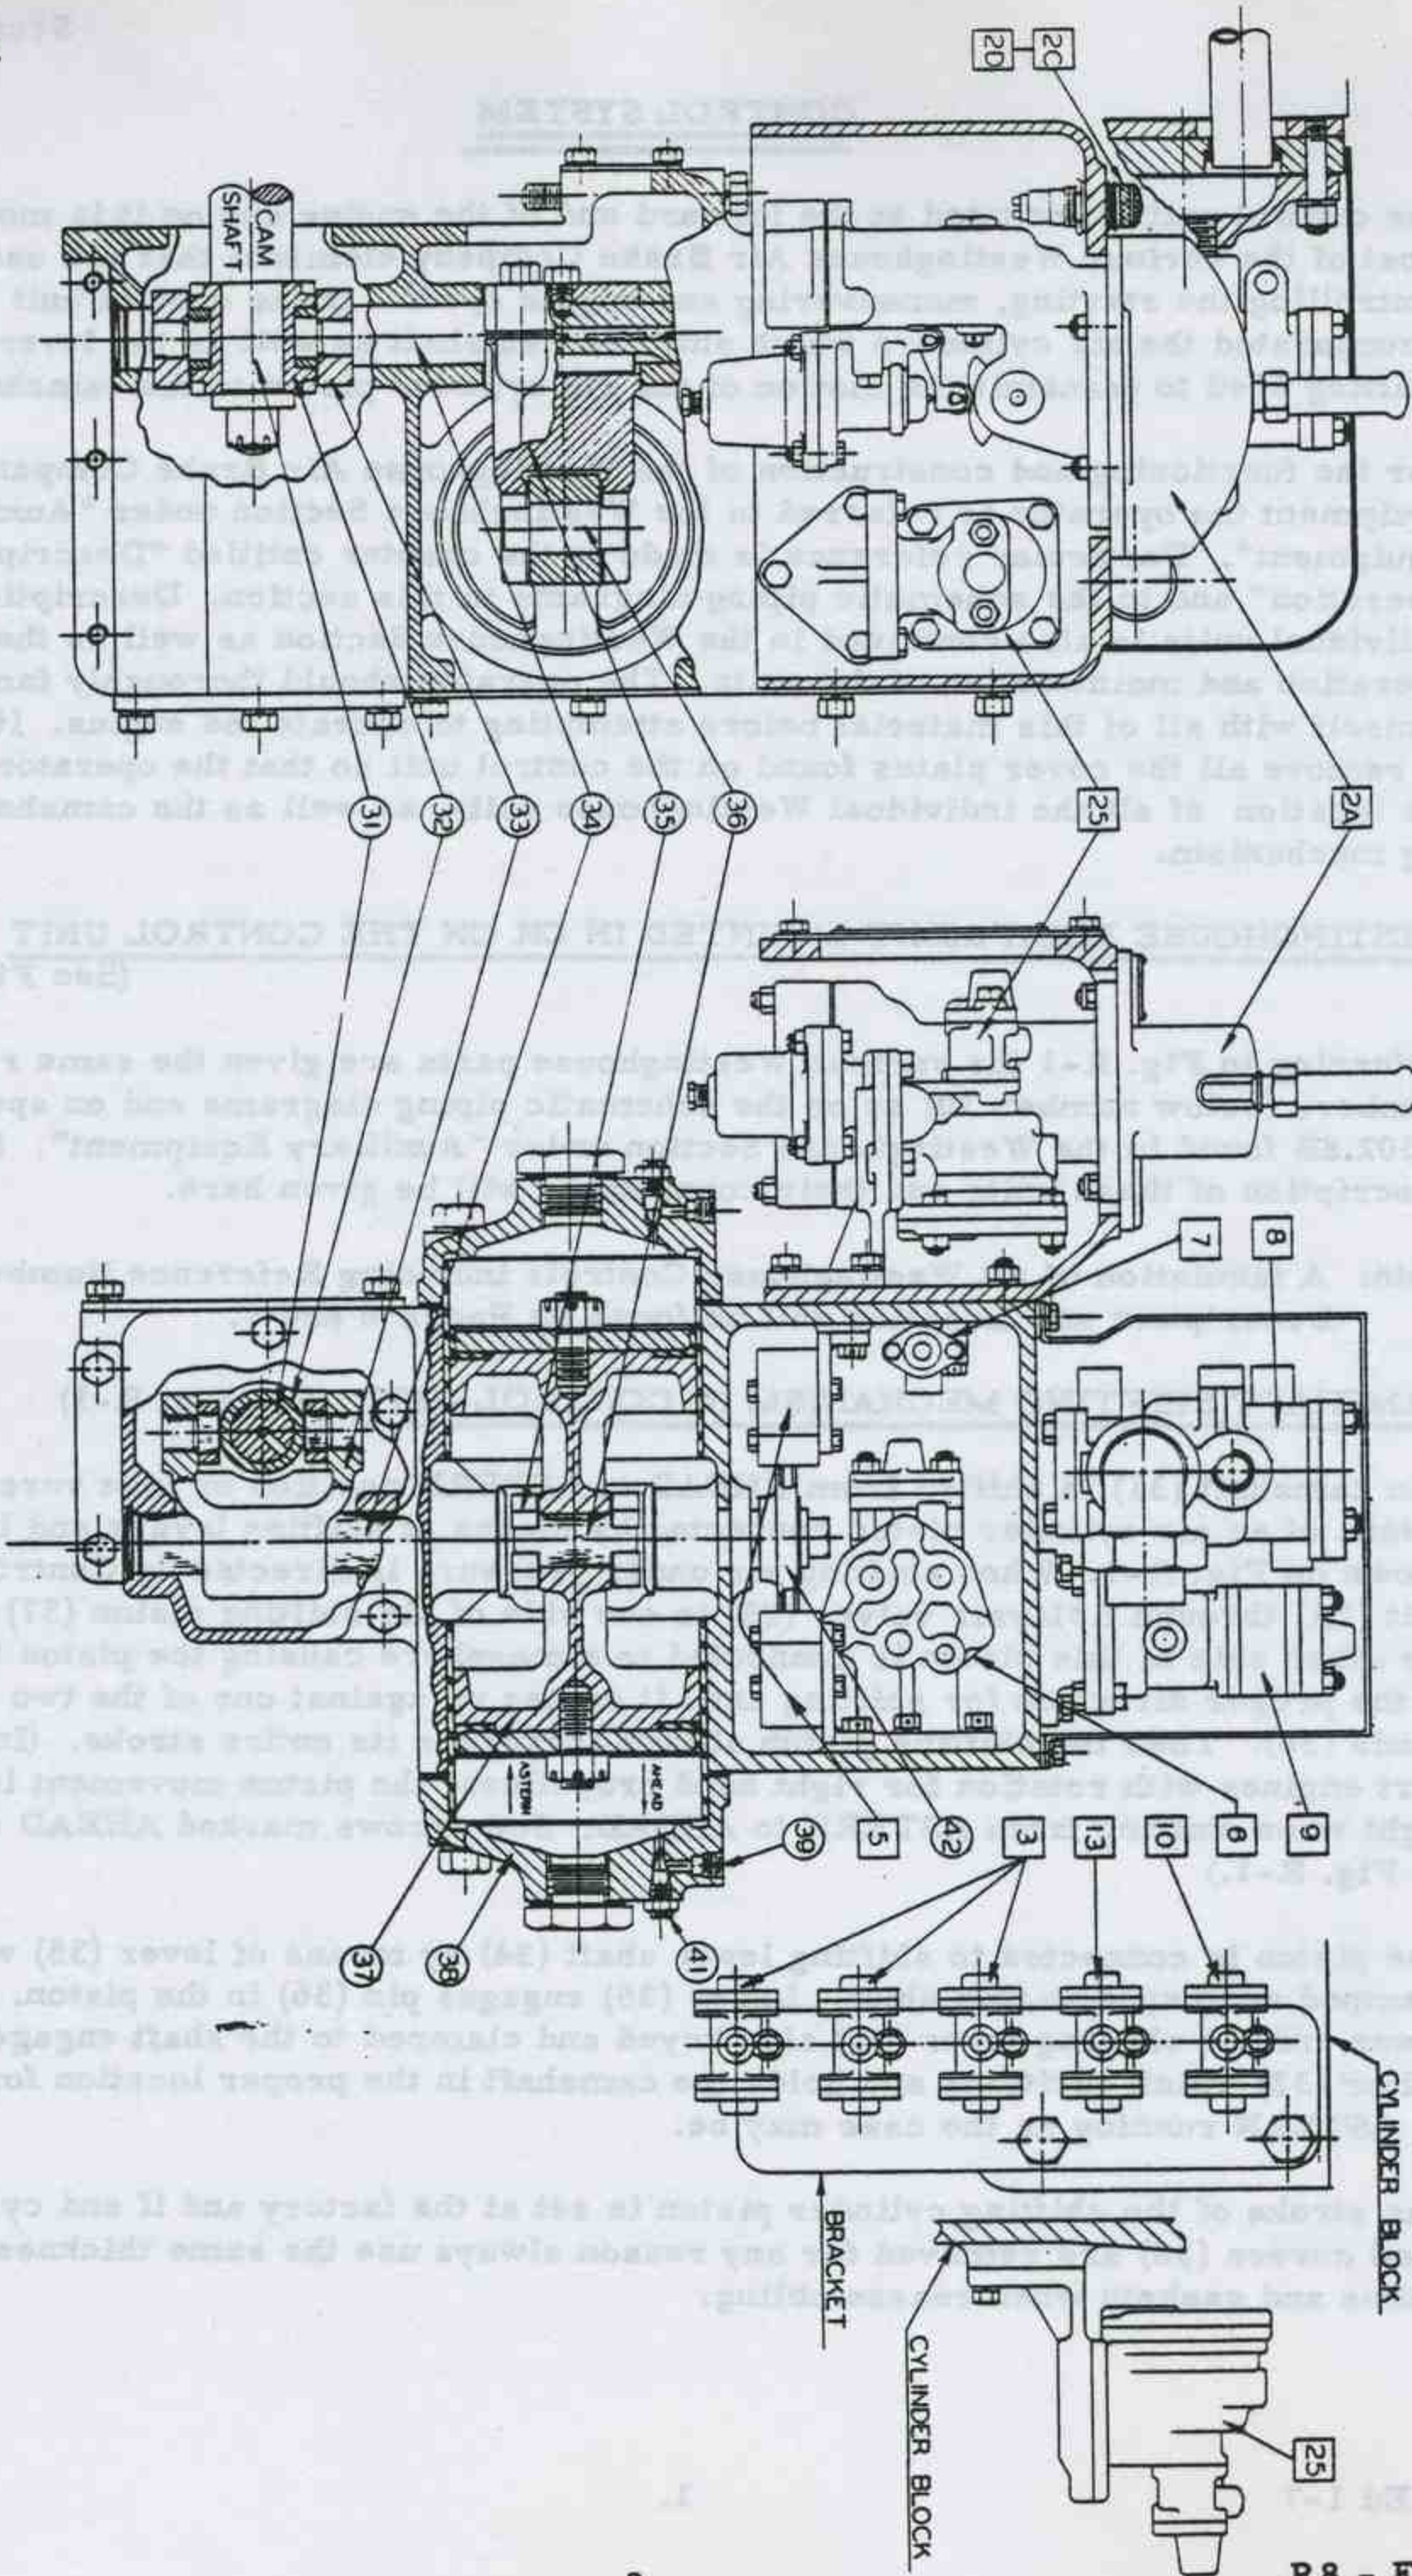

FIG. R-1
(See Fig. R-1)
Referring to Fig. R-1 the various Westinghouse parts are given the same reference numbers (below number 30) as on the schematic piping diagrams and on specification I-302.8B found in the Westinghouse Section under "Auxiliary Equipment". No further description of these units and their connections will be given here.
4. CAMSHAFT SHIFTING MECHANISM IN CONTROL UNIT (See Fig. R-1)
The camshaft (31) is shifted from AHEAD to ASTERN position or vice versa by means of an air cylinder piston connected by means of shifting levers and links shown on Fig. R-1. When shifting air under pressure is directed by Controlair unit (2A) through Relayair valves (25) to one side of air shifting piston (37) while the other side of this piston is connected to atmosphere causing the piston to move in the proper direction for shifting until it comes up against one of the two cylinder heads (38). Thus the shifting piston always traverses its entire stroke. (In standard port engines with rotation for right hand propellers, the piston movement is to the right when shifting from ASTERN to AHEAD. See arrows marked AHEAD and ASTERN on Fig. R-1.)